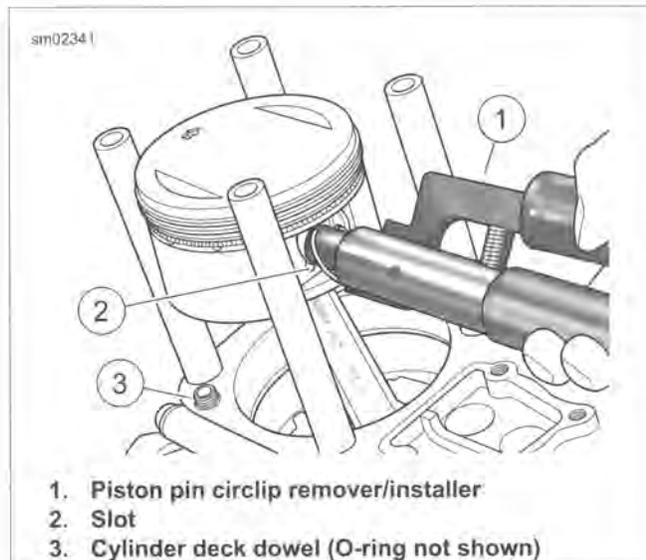

Figure 3-68. Pin Circlip Installation
- d. See Figure 3-68. Insert the tool (1) into the piston pin bore until claw is aligned with slot (2) in piston.
- See Figure 3-68. Apply a very thin film of clean engine oil to **new** O-rings for both lower cylinder deck dowels. Install and verify that O-ring is properly seated in groove.